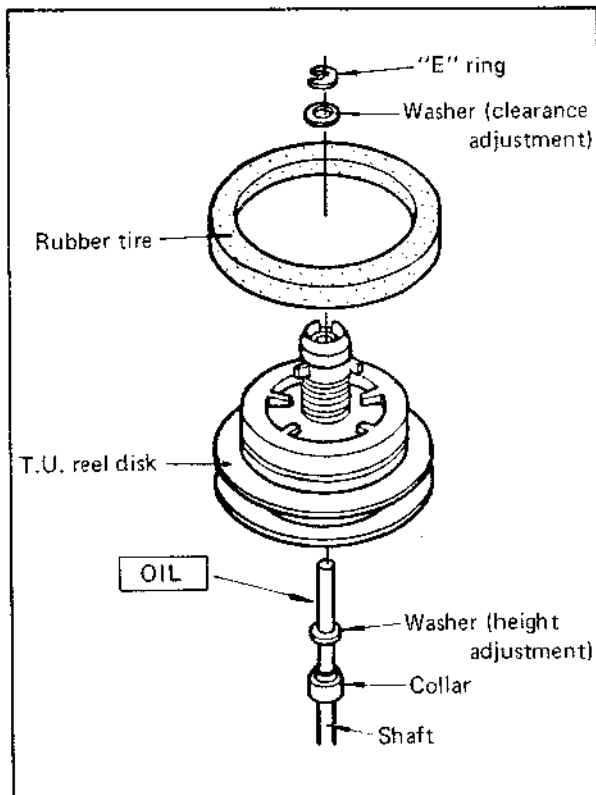

Fig. 4-28
1. Refer to Fig. 4-28. Remove the E-ring, then the upper washer, take-up reel disk and lower washer. Use care not to misplace or interchange the washers.